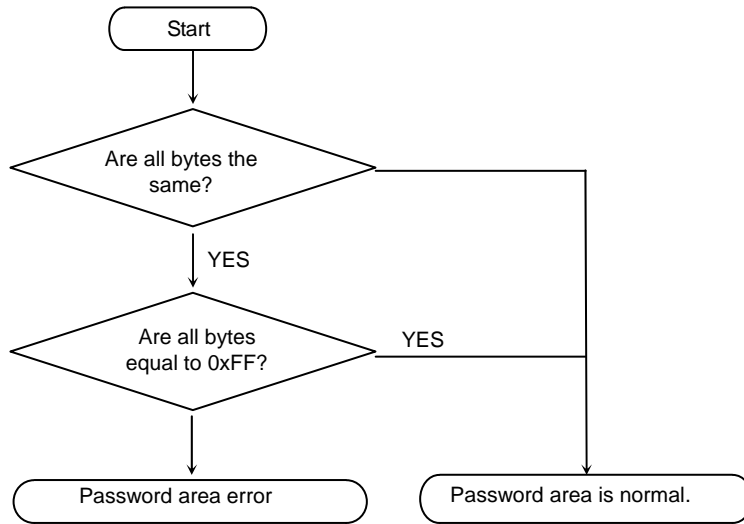

Fig. 19-7 Password Area Verification Flow
**Fig. 19-7.** In this case, the boot program returns an error acknowledge (0x11) in response to the checksum byte (the 17th byte), regardless of whether the password sequence sent from the controller is all 0xFFs.